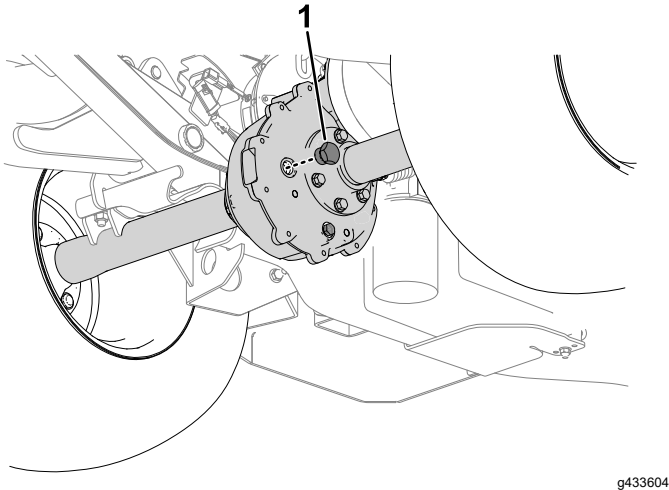

Figure 52
1. Remove the fill plug on the axle (Figure 52).